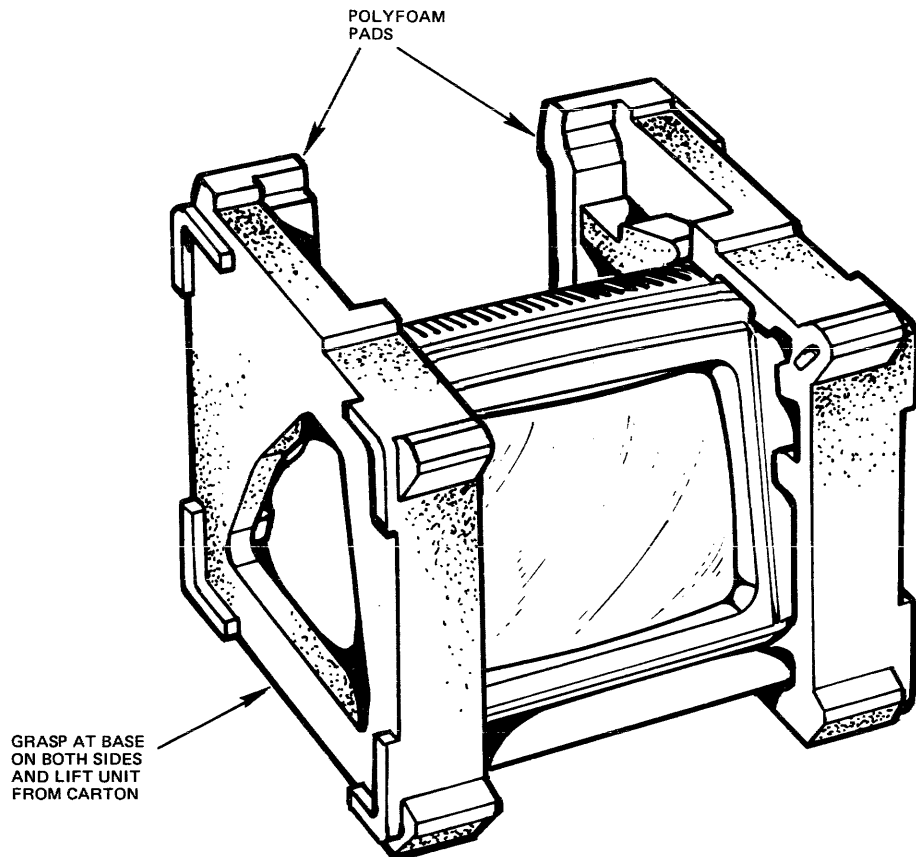

Figure 2-3. Display Unit Removed from Carton
7. The display unit (also enclosed in a poly bag) has a polyfoam pad on each side of the unit. Grasp the polyfoam pads at their base (see Figure 2-3). While pressing the pads against the terminal's sides, carefully lift the pads and terminal from the carton.